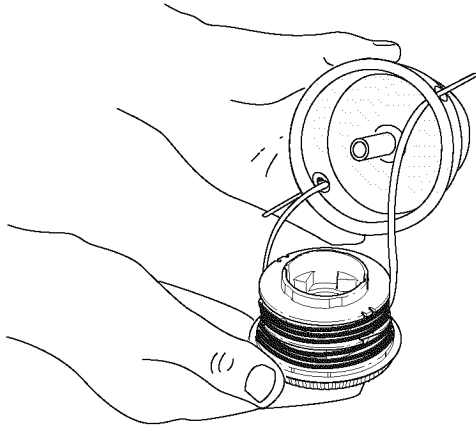

Fig. 23
3. Insert the ends of the prewound inner reel line into the outer spool eyelets (Fig. 23). Push the new inner reel, arrow side up, into the outer spool.
3. Pull the inner reel with existing line from the outer spool (Fig. 23).